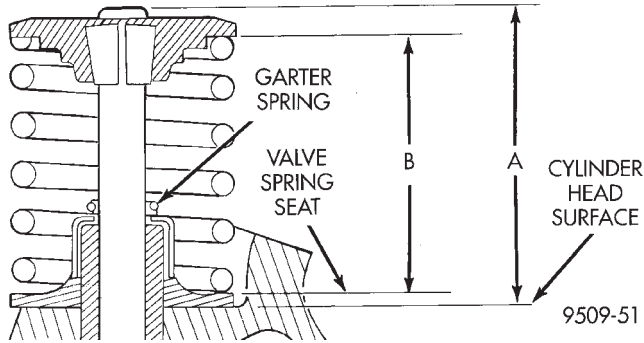

Fig. 45 Checking Spring Installed Height and Valve Tip to Spring Seat Dimensions
(8) Check valve tip to spring seat dimensions A after grinding the valve seats or faces. Grind valve tip to 43.51 - 44.57 mm (1.71 - 1.75 in.) for exhaust valve and 45.01 - 46.07 mm (1.77 - 1.81 in.) for intake valve over spring seat when installed in the head (Fig. 45). The valve tip chamfer may need to be reground to prevent seal damage when the valve is installed.
(4) Check the valve spring installed height B after refacing the valve and seat (Fig. 45). Make sure measurements are taken from top of spring seat to the bottom surface of spring retainer. If height is greater than 40.18 mm (1.58 in.), install a 0.762 mm (0.030 in.) spacer under the valve spring seat to bring spring height back within specification.
(5) Install rocker arm shafts as previously described in this section.
(6) Checking dry lash. Dry lash is the amount of clearance that exists between the base circle of an installed cam and the rocker arm roller when the adjuster is drained of oil and completely collapsed. Specified dry lash is 1.17 mm (0.046 in.) for intake and 1.28 mm (0.050 in.) for exhaust. After performing dry lash check, refill adjuster with oil and allow 10 minutes for adjuster/s to bleed down before rotating cam.